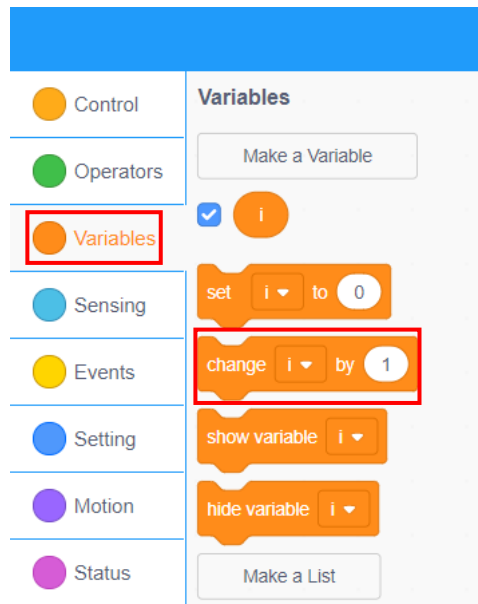

Figure 2.31 Variable i increased
Step 6: Increase the variable i. Click on the "**Variables**" tab and drag the "change (i) by 1" brick to the code area, and put it together with the previous block, as shown in Figure 2.31.